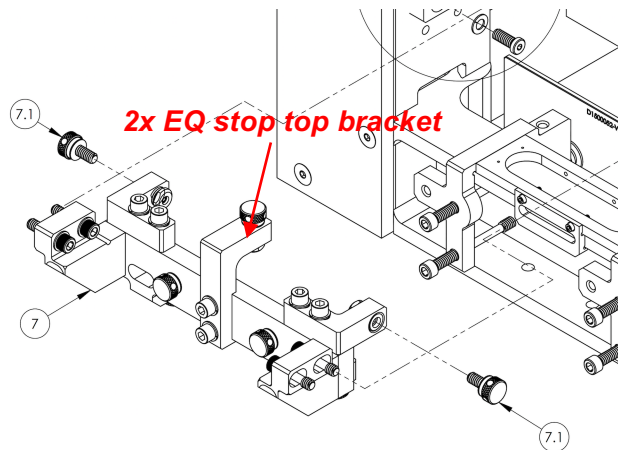

Figure 7: Top Bracket of the OMC EQ stop module (D0900295 Sheet 7)
- Remove two top brackets of the OMC EQ stop modules (Figure 7).